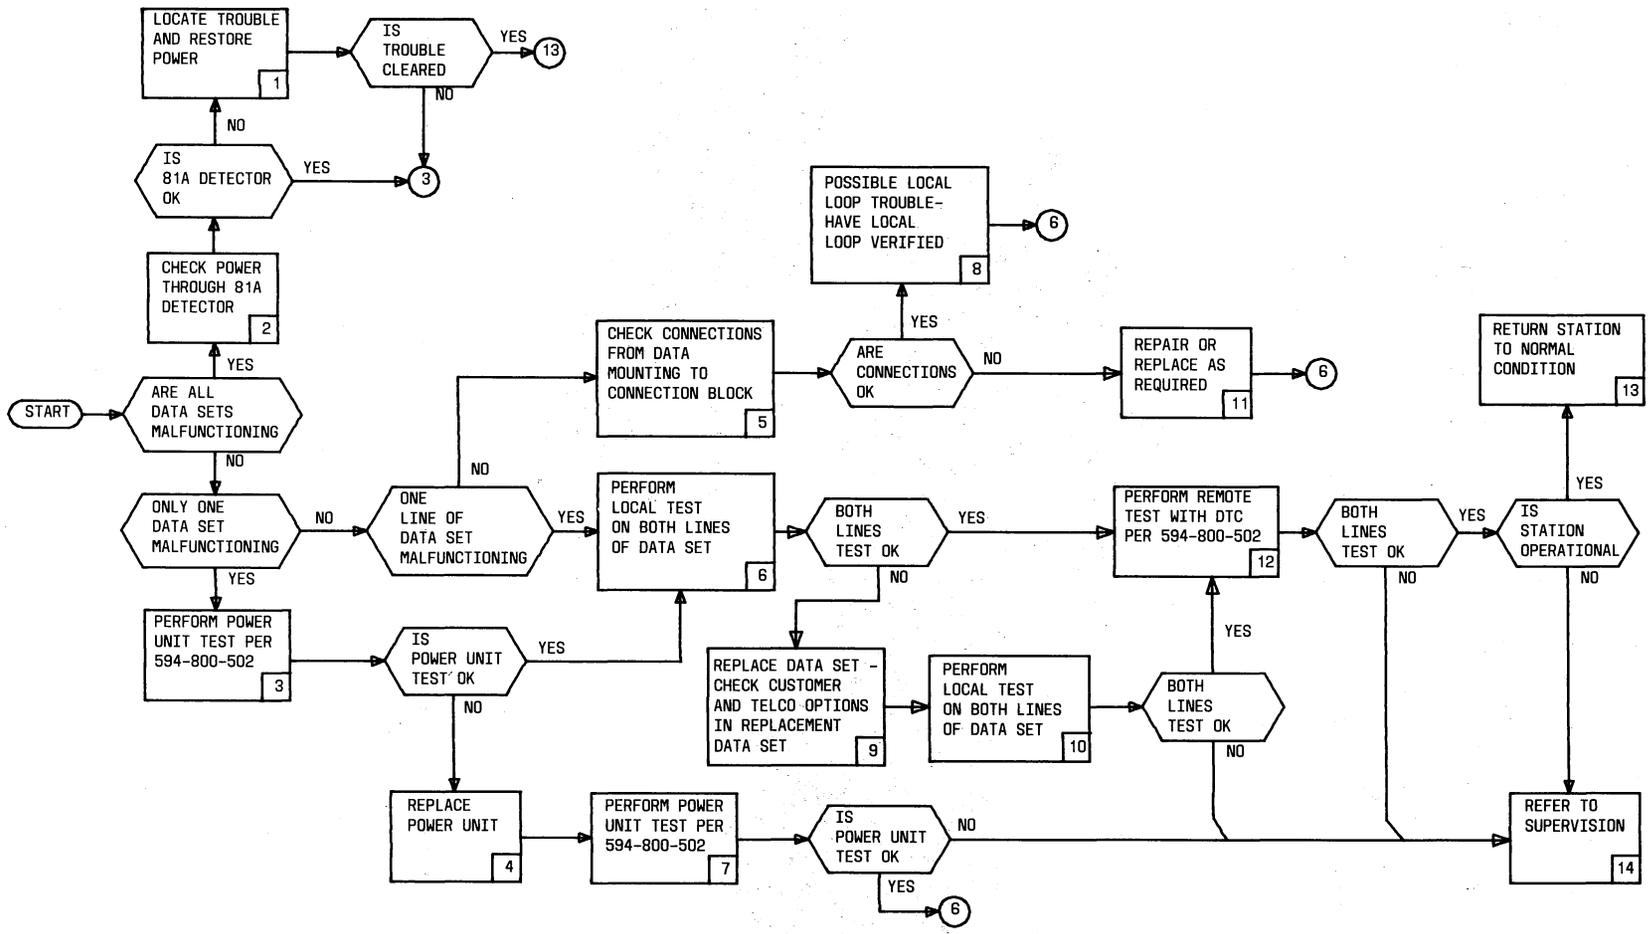

Fig. 2—▶Troubleshooting Flowchart for 407C Multiple Data Station◀
4.01 Troubleshooting the 407C multiple data station should be in accordance with the flowchart shown in Fig. 2. The flowchart is a recommended procedure to follow when investigating system trouble. The information blocks in the flowchart are numbered to provide easy reference. The diamond represents a decision to be made, while the circles provide a means of referring to another numbered information block in the flowchart.